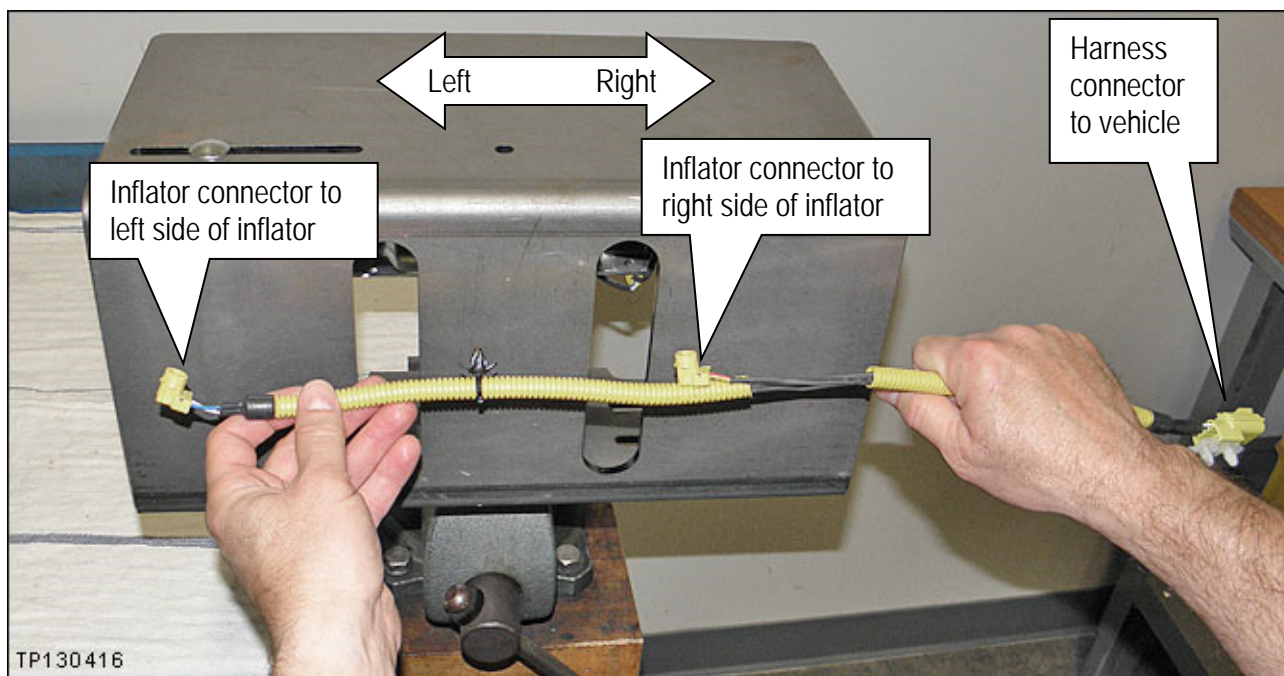

Figure F17
- Left / Right orientation is as shown in Figure F17.
- Make sure to attach the correct ends (see Figure F17 on the previous page).
- Refer to Figures F17, F18, F19, and F20.